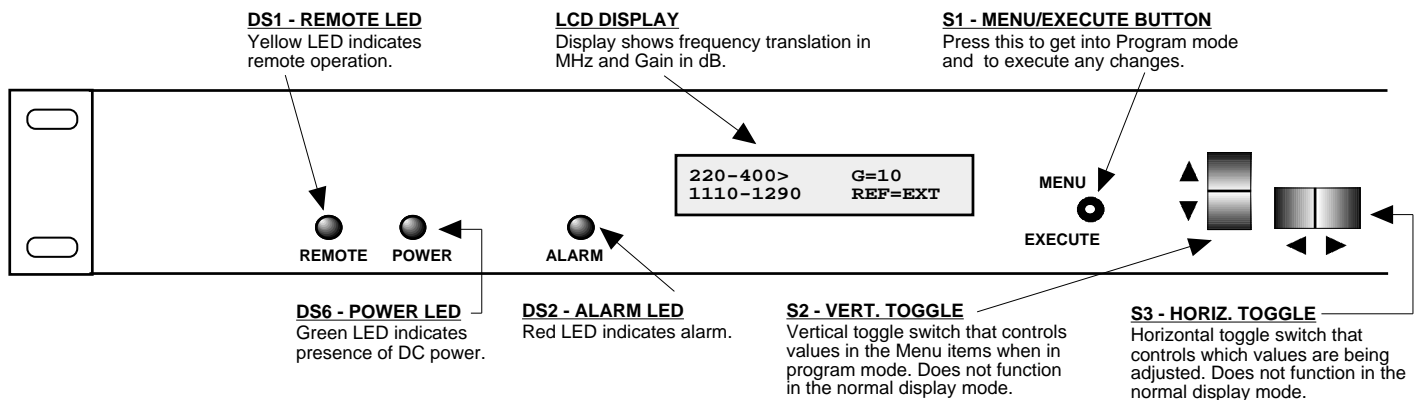

FIGURE 2.2 2083-0413 Front Panel Controls and Indicators
Figure 2.2 shows the front panel controls and indicators.
5. Be sure DS6 (green, DC Power) is on and DS2 (red, Alarm) is off (Figure 2.2).
Alarm indications appear on the LEDs (see Figure 2.2).